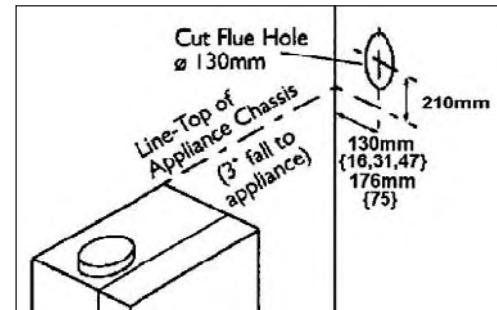

Fig 11.4d
- 1) With the boiler mounted in position, see section 7.0, draw a horizontal line along the wall 210 mm above the top of the boiler. This line should rise at approximately 3° from the horizontal toward the terminal position to allow any condensate to drain through the boiler. See fig 11.4d.
- 2) On the adjacent sidewall, draw a vertical line 130 mm (15, 25 & 45 models), or 176 mm (75 model) from the wall that the boiler is mounted on. Continue the horizontal line previously marked on the sidewall. See fig 11.4d
- 3) At the intersection of the horizontal and vertical lines, cut a 130 mm Ø hole with a core drill. See fig 11.4d.